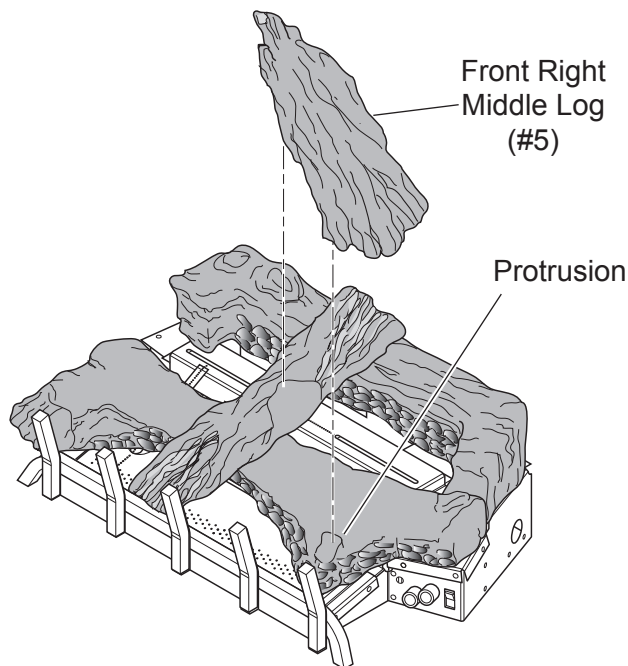

Figure 34 - Installing Top Right Log (#5)
5. Place front right middle log (#5) on protrusion of bottom right log. *See Figure 34.*